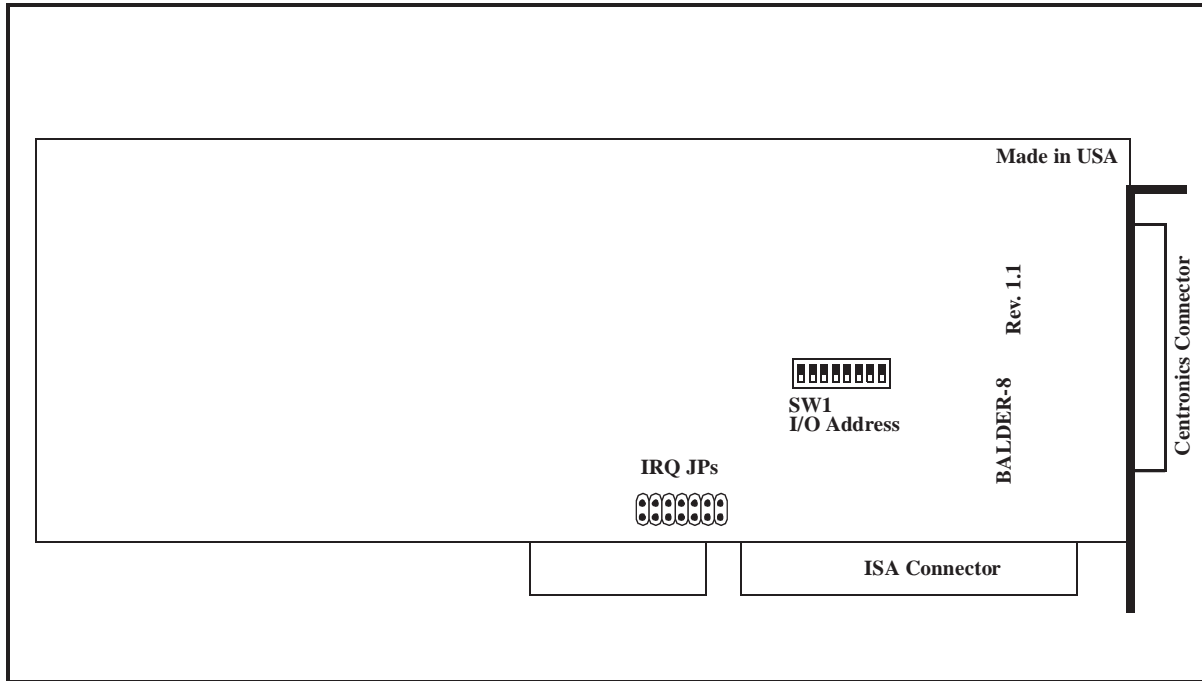

Figure 1. Balder-8 Switches and Jumpers
The Balder-8 board is configured by setting jumpers (JP) and switches (SW) on the board. The locations and names of the jumpers and switches can be found from Figure 1.